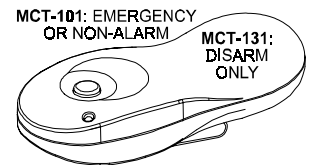

Figure 23. MCT-131 / 101
**E. MCT-131 / MCT-101** (see Fig. 23): Single-button units. The MCT-231 (CodeSecure) and the MCT-201 (PowerCode) can be enrolled to perform functions as shown. Both units look alike.